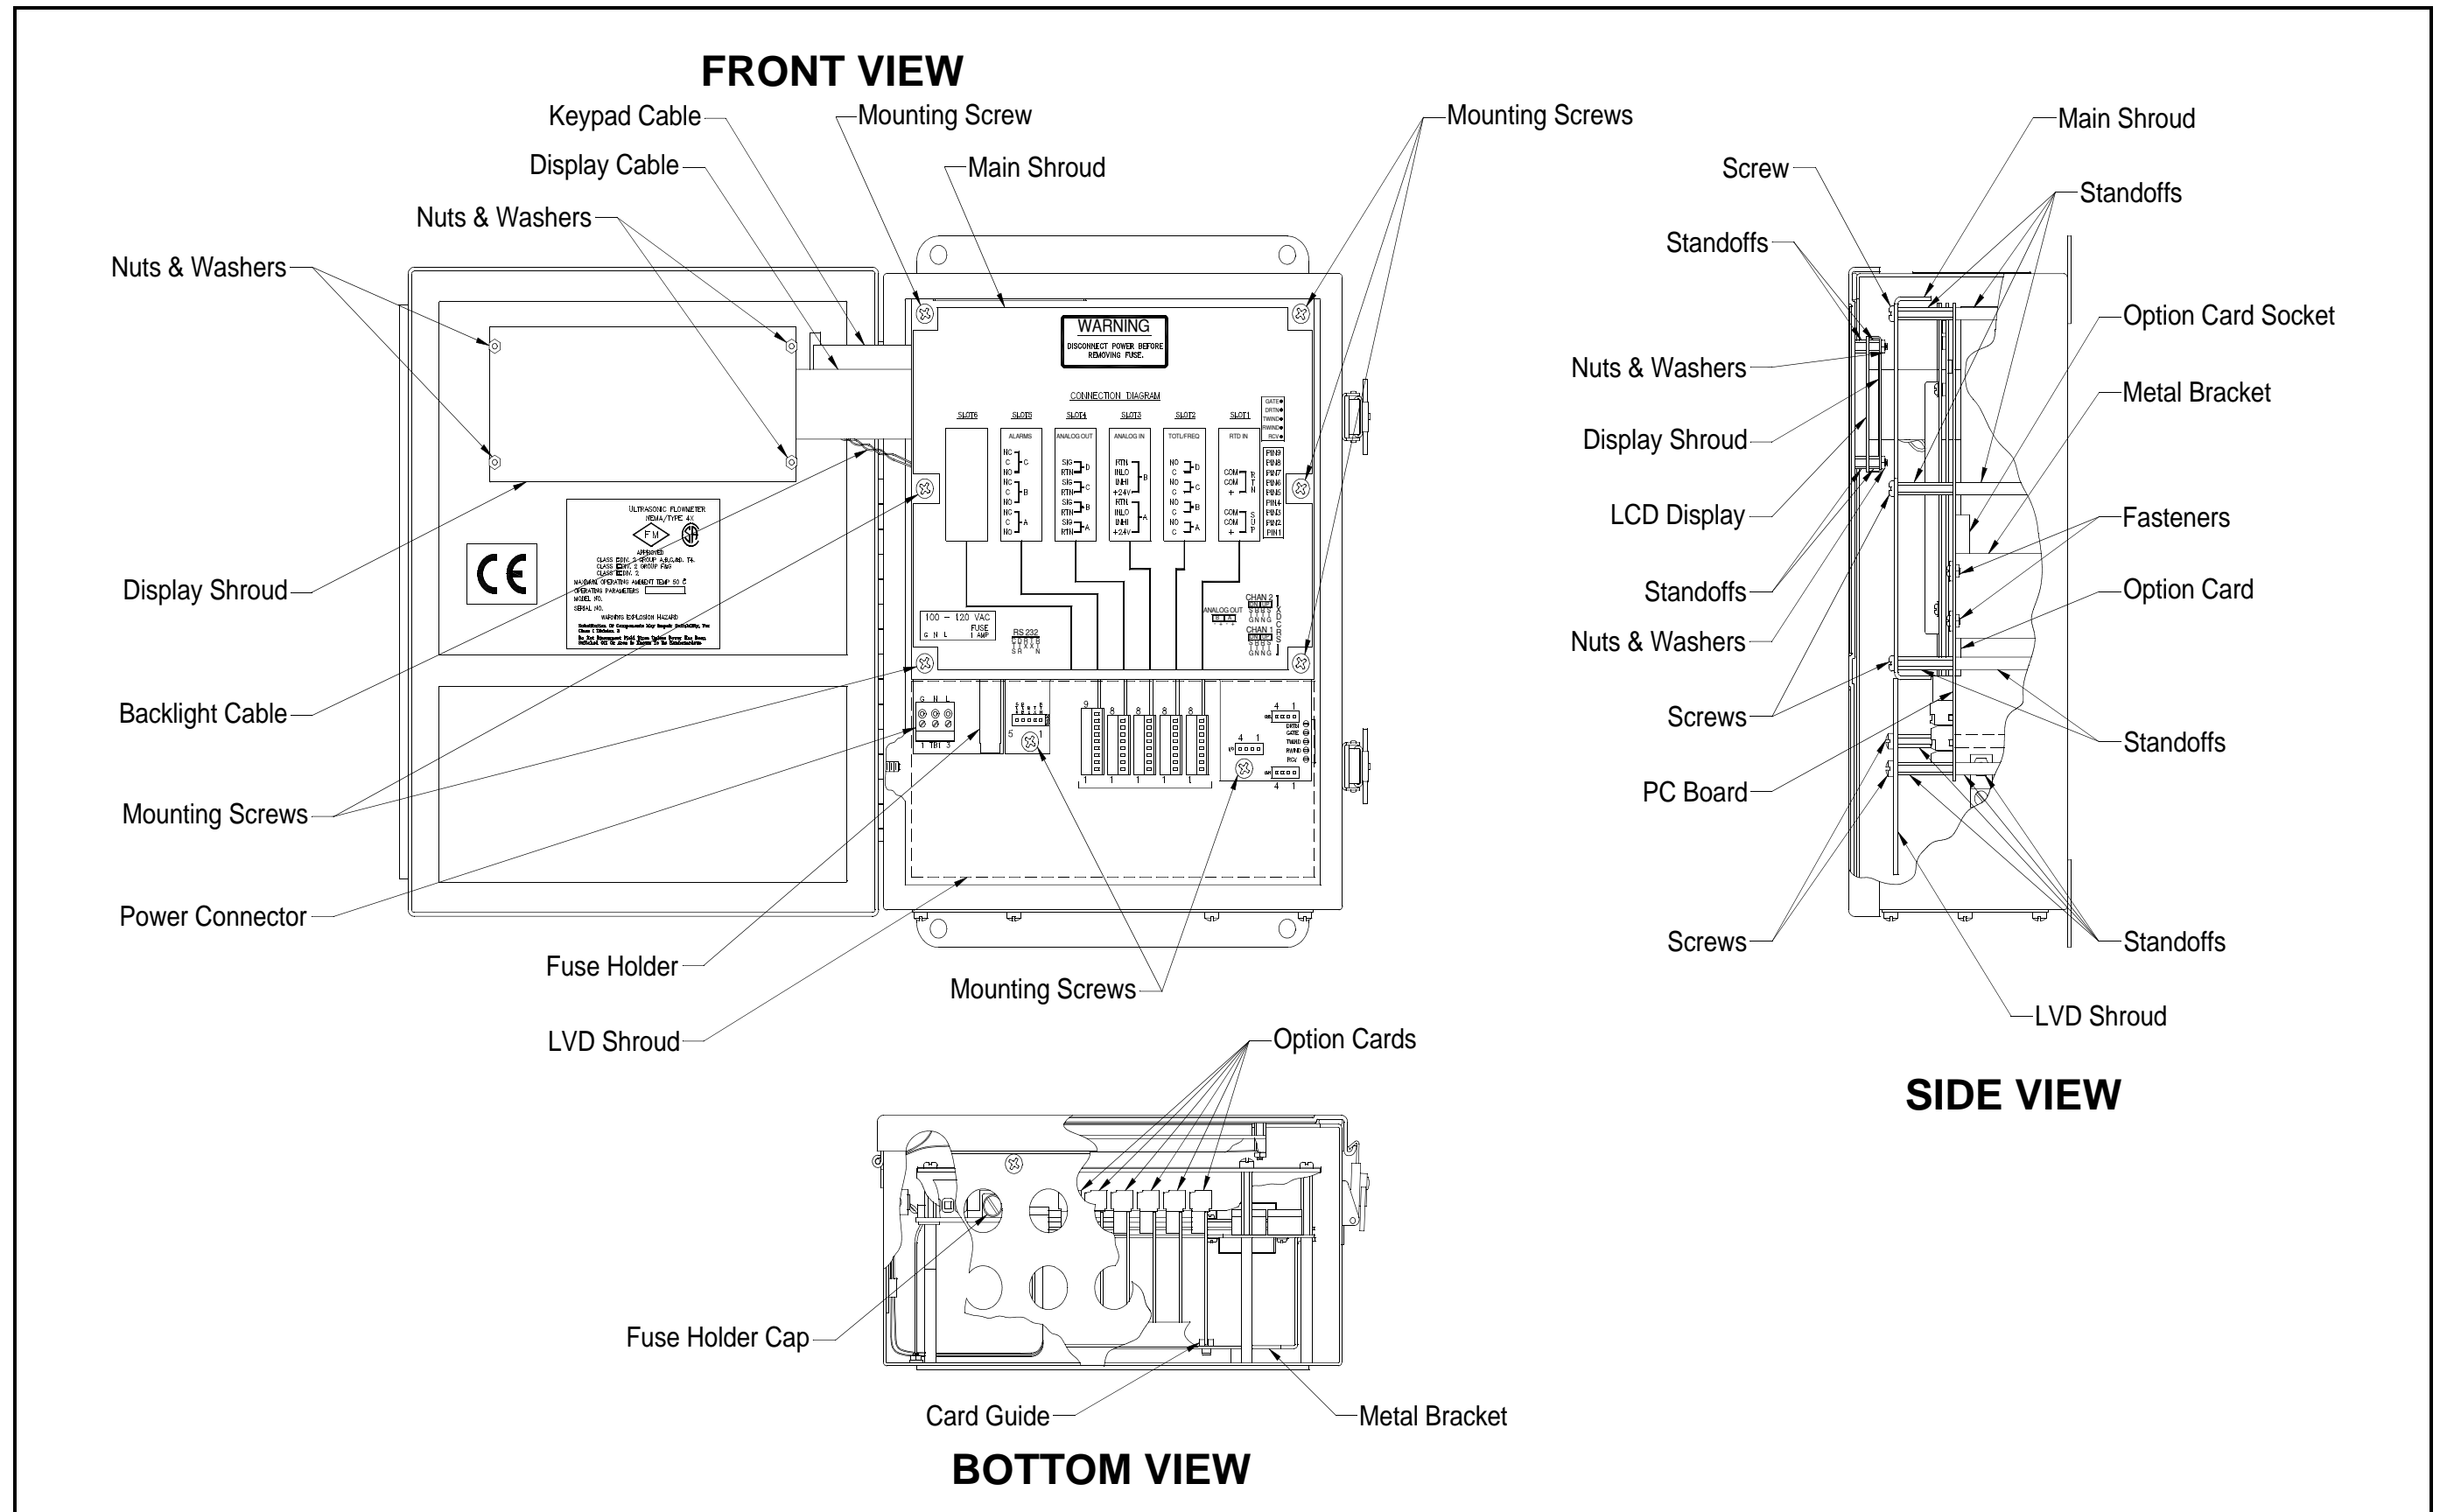
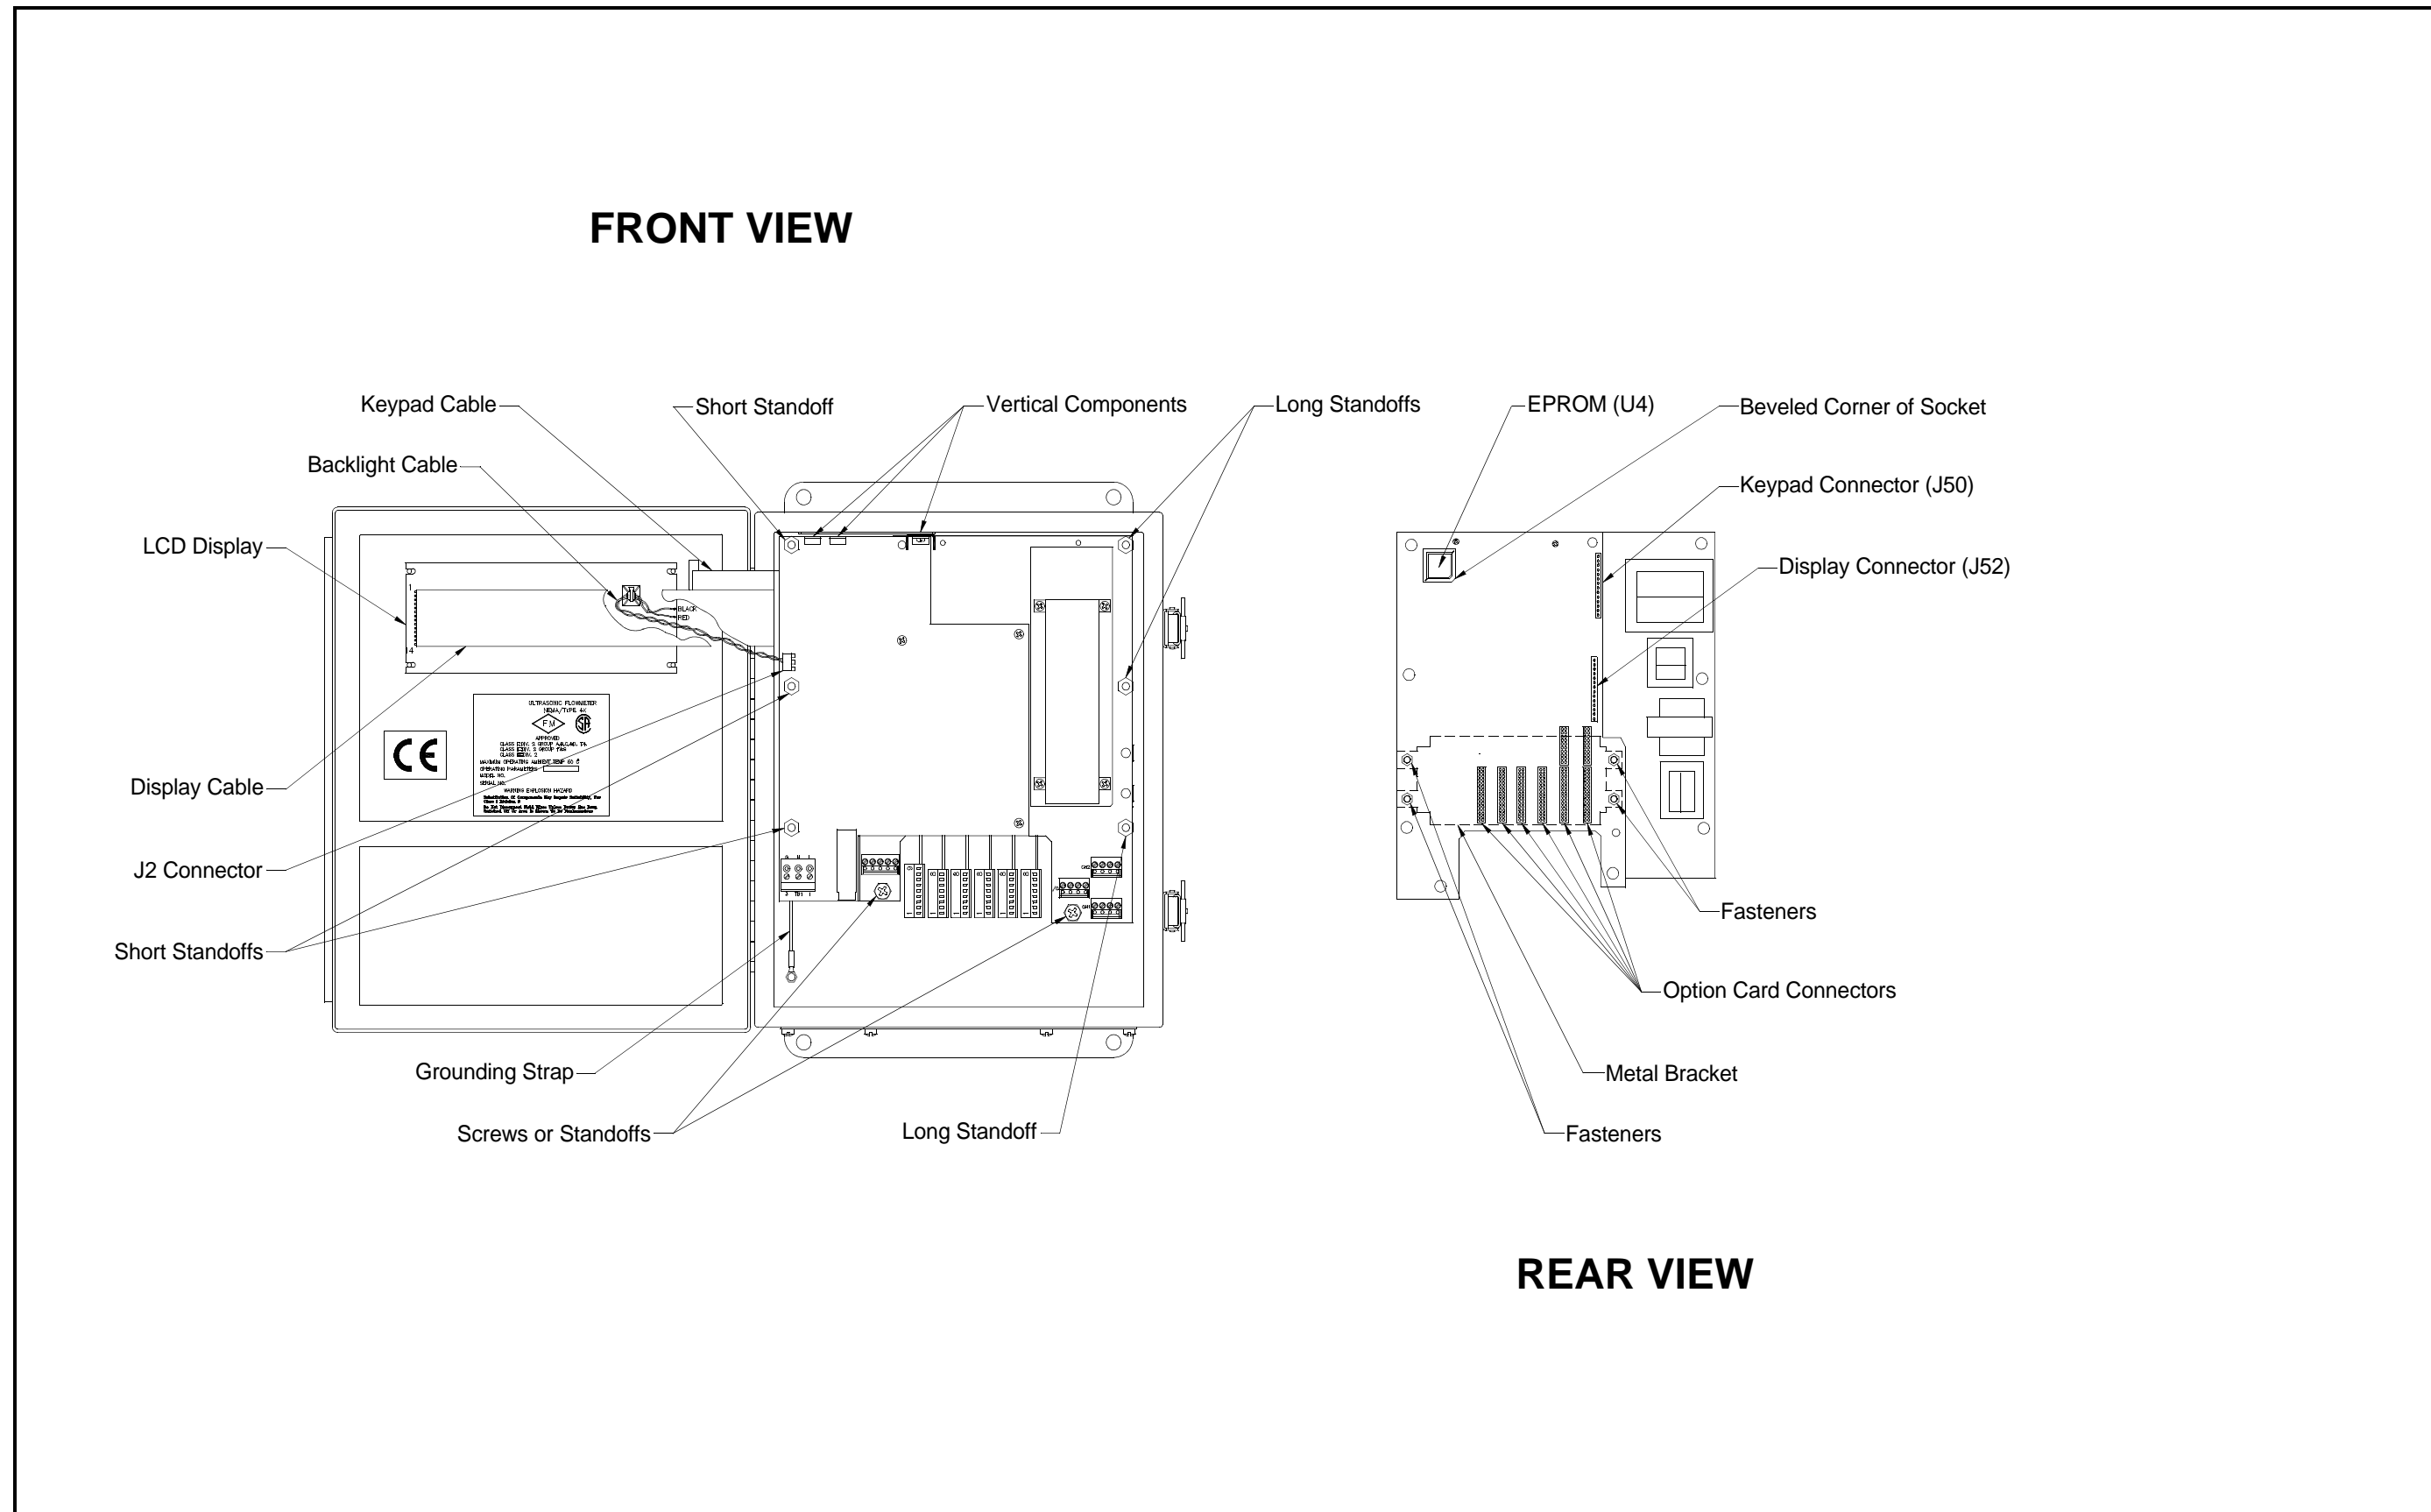

Figure 4-1: Standard Model GC868 - Electronics Console Assembly
Figure 4-2: Standard Model GC868 - Printed Circuit Board Assembly
All of the remaining maintenance procedures discussed in this chapter require removal of the printed circuit board. To accomplish this task, refer to Figure 4-1 on page 4-10 and Figure 4-2 on page 4-11 while completing the following tasks:
During this procedure, be very careful not to damage the upright components along the top edge of the printed circuit board (see Figure 4-2 on page 4-11). Severe or repeated bending of these components will break their leads.
The Model GC868's *User Program* is stored on an erasable programmable read only memory (EPROM) chip. The EPROM, which is designated as component U4, is located in the top left corner of the bottom of the printed circuit board. See Figure 4-2 on page 4-11 for a rear view of the printed circuit board. EPROM replacement may be required to replace a defective chip or to upgrade to a newer software version. To replace the EPROM, complete the following steps:
To install an option card, refer to Figure 4-2 on page 4-11 and complete the following steps:
5. Place the metal bracket over the option cards, making sure that all option cards are aligned with the plastic card guides in the bracket. Secure the metal bracket to the printed circuit board with the snap rivets provided. See the installed assembly in Figure 4-1 on page 4-10.
The Model GC868's measurements are displayed on a two-pane LCD graphic display panel. The LCD display normally provides years of dependable service, but it is easily field-replaceable when necessary. To replace the LCD display, see Figure 4-1 on page 4-10 for the component locations, and complete the following steps:
4. Place the new LCD display assembly over the mounting studs on the console cover and fasten it in place with the four standoffs. Make sure that the LCD display assembly is oriented as shown in Figure 4-2 on page 4-11.
Whether the printed circuit board was removed for replacement or for one of the other procedures discussed in this chapter, reinstallation of the printed circuit board is the final step in the process. Refer to Figure 4-1 on page 4-10 and complete the following steps:
During this procedure, be very careful not to damage the vertical components along the top edge of the printed circuit board (see Figure 4-2 on page 4-11). Severe or repeated bending of these components will break their leads.
1. Position the printed circuit board within the electronics console with the top edge tilted forward. Insert the display ribbon cable and keypad ribbon cable connectors into their sockets on the rear of the printed circuit board. See Figure 4-1 on page 4-10 and Figure 4-2 on page 4-11 to identify the cables and sockets. Note that the keypad cable connects to the upper socket and the display cable connects to the lower socket.